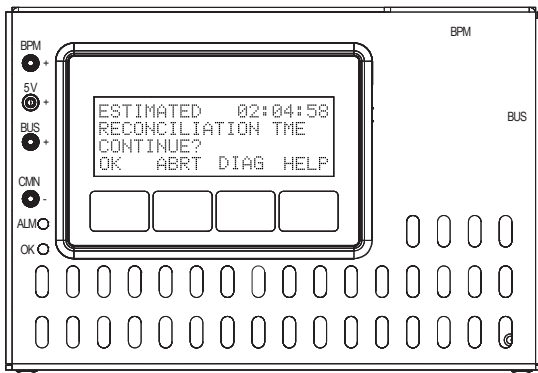
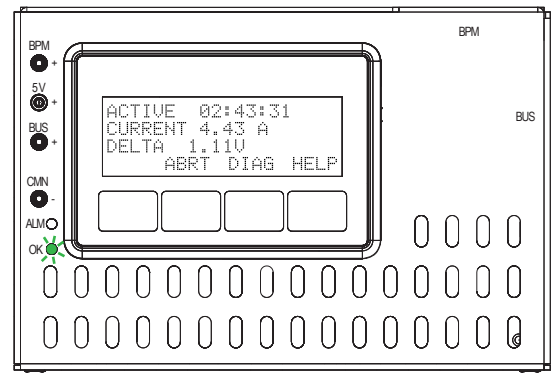
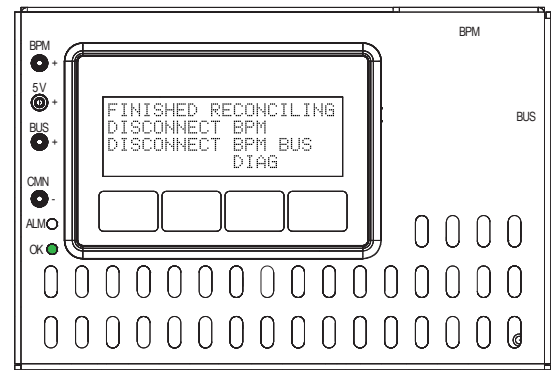

Fig. 5-9, BRD Screen - Reconciliation Estimated Time
Fig. 5-10, BRD Screen - Reconciliation in Process
Fig. 5-12, BRD Screen - Reconciliation Complete
- Reconciliation will start - the green LED will blink during this process (Fig. 5-10). The top line on the BRD display will show an estimated time (Fig. 5-9). Ordinarily this is a rapid process unless the BPMs are not already balanced to a common charge level. During this process, the BRD may become warm to the touch. Reconciliation is done when the BRD's OK green LED lights up solid (Fig. 5-12).
14. Reconciliation will start - the green LED will blink during this process (Fig. 5-10). The top line on the BRD display will show an estimated time (Fig. 5-9). Ordinarily this is a rapid process unless the BPMs are not already balanced to a common charge level. (Displayed on BRD.) During this process, the BRD may become warm to the touch. Reconciliation is done when the BRD's OK green LED lights up solid.